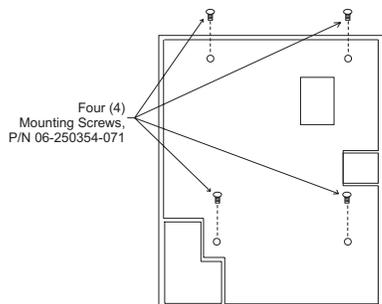

Figure 1. Dead Front Enclosure
- \* An optional dead-front enclosure (P/N 06-235500-001) is available (mandatory for use in Canada). The dead front protects the user from access to any exposed wiring. See Figure 1 for installation.